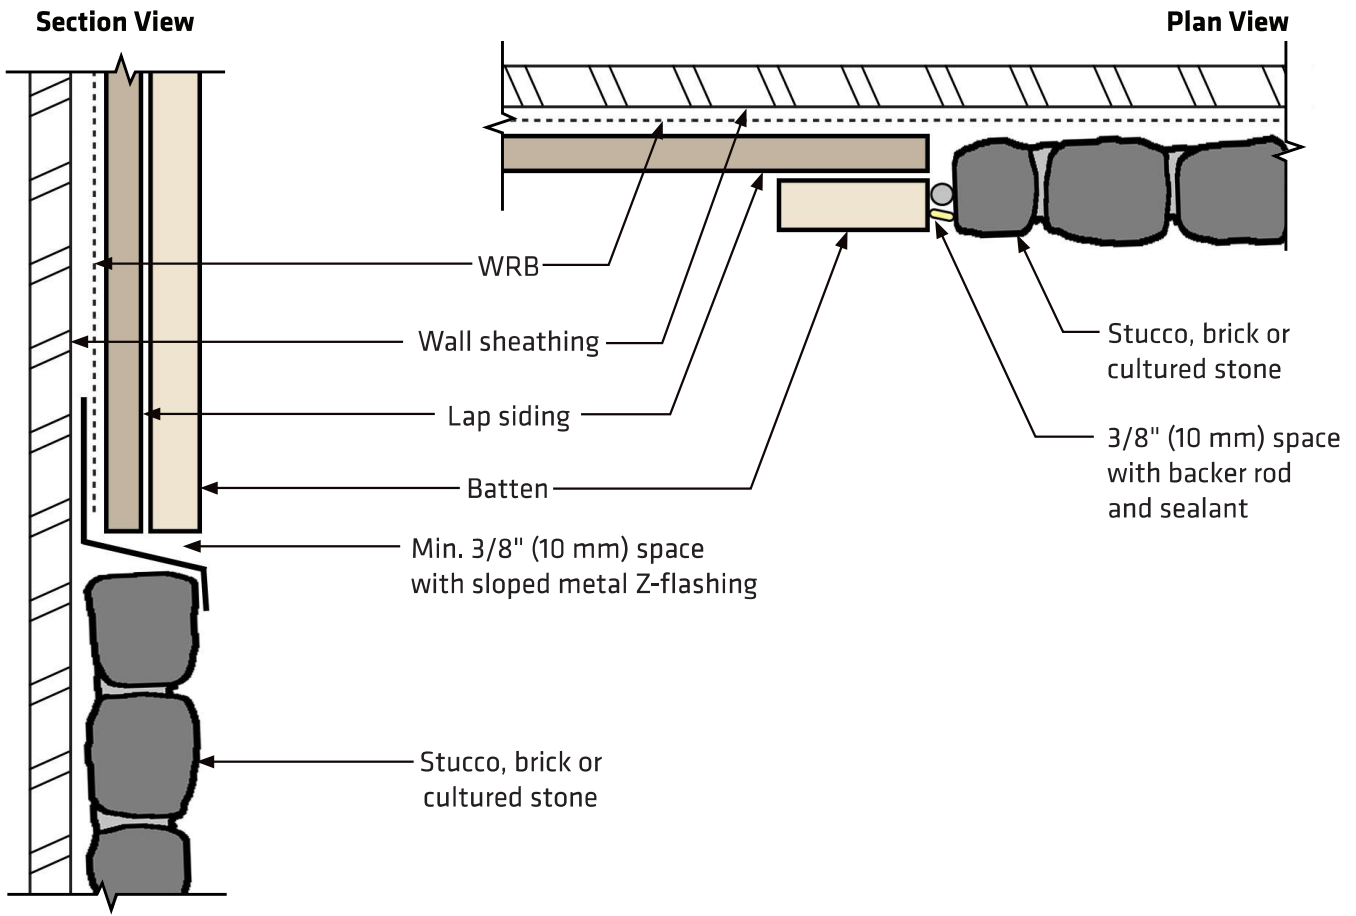

Figure 6
- When using SmartSide siding with other siding products like stucco, brick or cultured stone veneers, it is important to use a capillary break so moisture absorbed into those veneers cannot be transferred into siding. Separate SmartSide siding from veneers with a minimum 3/8" (10 mm) space for horizontal or vertical joints, use sealant. Backer rod may be required by the sealant manufacturer. *(See Figure 6).*